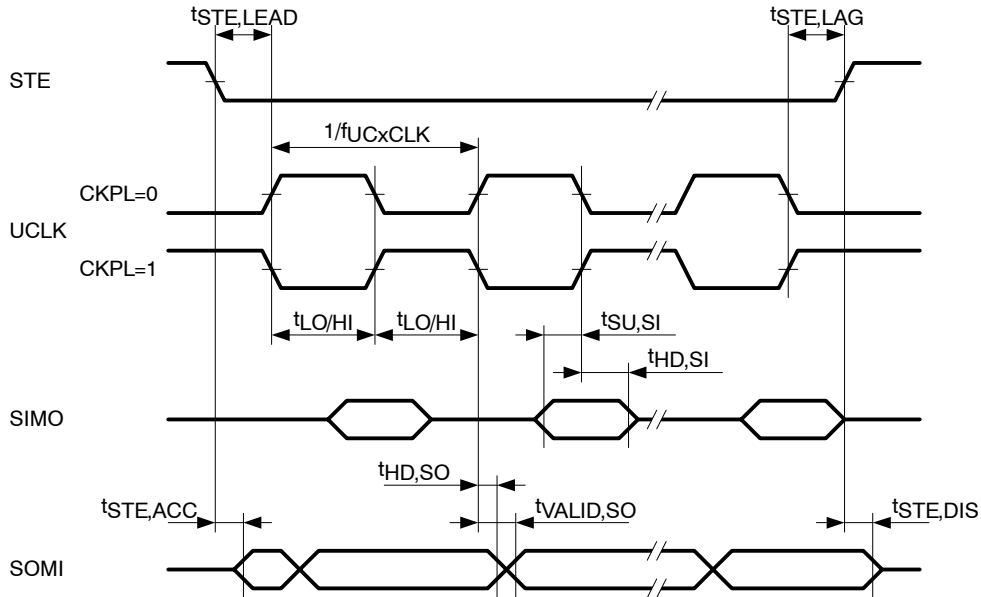
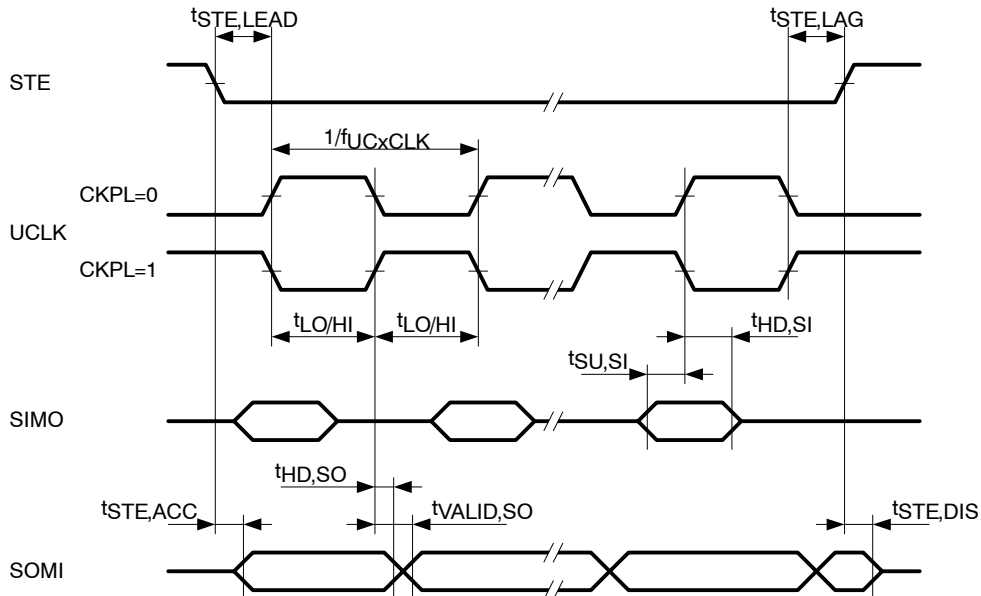

Figure 23. SPI Slave Mode, CKPH = 0
Figure 24. SPI Slave Mode, CKPH = 1
USCI (SPI slave mode) (see Note 1, Figure 23, and Figure 24)
2. Specifies the time to drive the next valid data to the SOMI output after the output changing UCLK clock edge. Refer to the timing diagrams in Figure 23 and Figure 24.
3. Specifies how long data on the SOMI output is valid after the output changing UCLK clock edge. Negative values indicate that the data on the SOMI output can become invalid before the output changing clock edge observed on UCLK. Refer to the timing diagrams in Figure 23 and Figure 24.